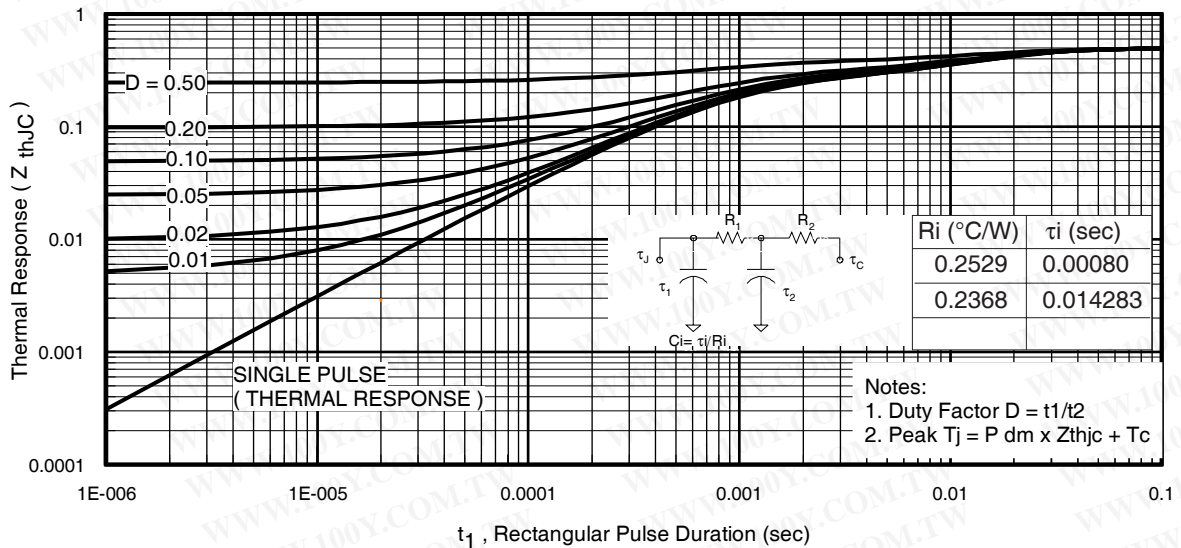
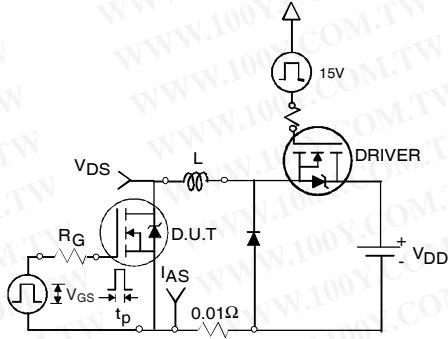

Fig 11. Maximum Effective Transient Thermal Impedance, Junction-to-Case
Fig 12a. Unclamped Inductive Test Circuit
- ① Repetitive rating; pulse width limited by max. junction temperature. (See fig. 11).
- ② Limited by T_{Jmax} , starting $T_J = 25^\circ\text{C}$, $L = 0.12\text{mH}$, $R_G = 25\ \Omega$, $I_{AS} = 95A$, $V_{GS} = 10V$. Part not recommended for use above this value.
- ③ Pulse width $\leq 1.0\text{ms}$; duty cycle $\leq 2\%$.
- ④ $C_{oss\ eff.}$ is a fixed capacitance that gives the same charging time as C_{oss} while V_{DS} is rising from 0 to 80% V_{DSS} .
- ⑤ Limited by T_{Jmax} , see Fig.12a, 12b, 15, 16 for typical repetitive avalanche performance.
- ⑥ This value determined from sample failure population. 100% tested to this value in production.
3. Equation below based on circuit and waveforms shown in Figures 12a, 12b.
$Z_{thJC}(D, t_{av})$ = Transient thermal resistance, see figure 11)